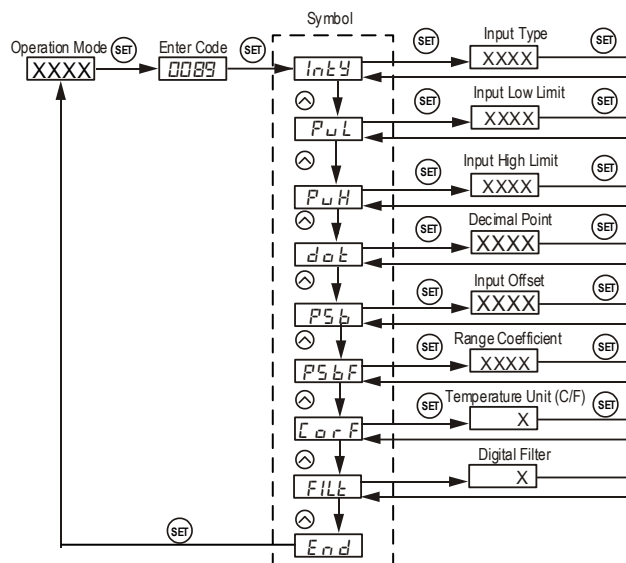

Figure 4. Basic Parameter Setting Flow Chart.
D.1.B) How to change basic parameters (see Figure 4)
The procedure to change alarm parameters is similar to the procedure for basic parameter setting shown in Figure 4 except the access code is 0001 instead of 0089.
The procedure to change the peak value settings is similar to the procedure for changing basic parameters in Figure 4 except access code is 0037 instead of 0089.